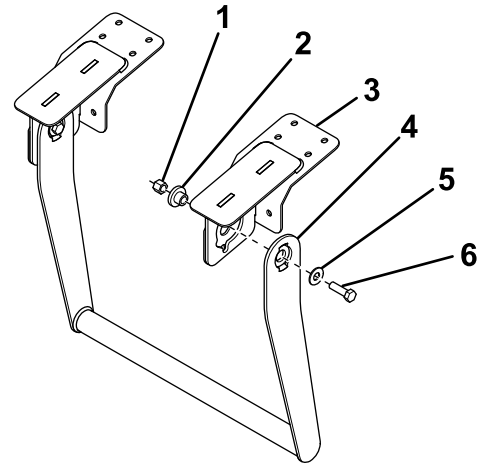

Figure 23
- Secure 2 mounting assemblies to a handle assembly using 2 nuts, 2 male bushings, 2 washers, and 2 bolts (3/8 x 1-1/4 inches) as shown in Figure 23.